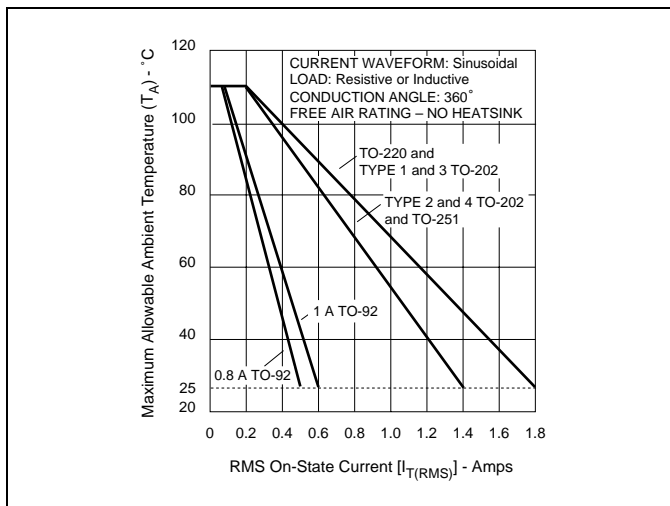
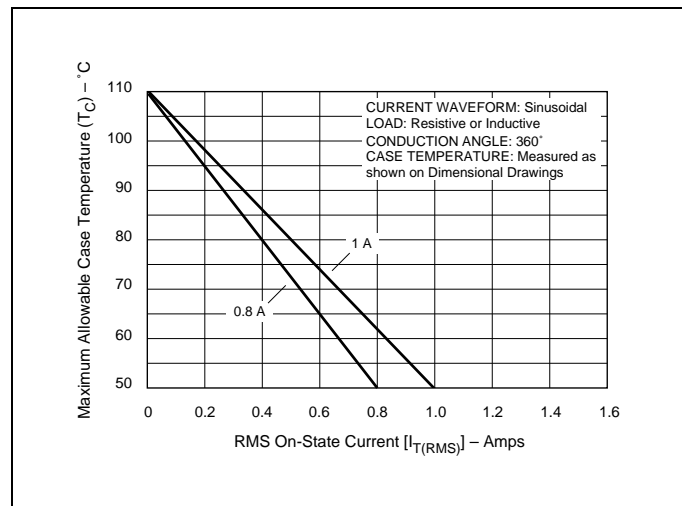
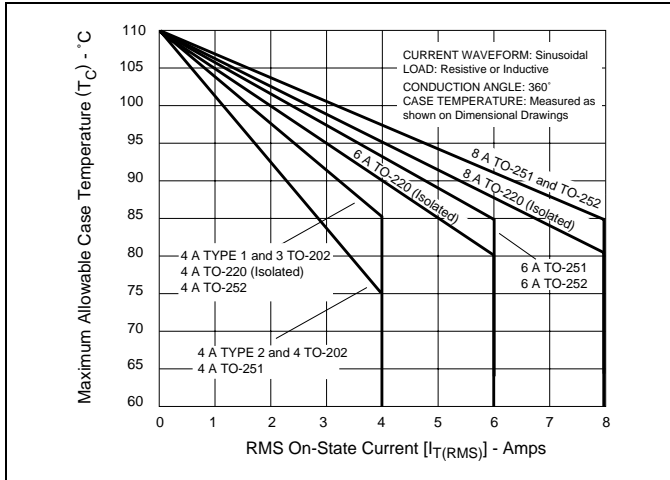

Figure E1.1 Maximum Allowable Ambient Temperature versus On-state Current
Figure E1.2 Maximum Allowable Case Temperature versus On-state Current (0.8 A and 1 A)
Figure E1.3 Maximum Allowable Case Temperature versus On-state Current (4 A, 6 A, and 8 A)
- (10) See Figure E1.2 and Figure E1.3 for maximum allowable case temperature at maximum rated current.
- (11) See Figure E1.1, Figure E1.2, and Figure E1.3 for T_A or T_C versus $I_{T(RMS)}$.
- (12) See package outlines for lead form configurations. When ordering special lead forming, add type number as suffix to part number.
- (13) Pulse width $\leq 10\text{ }\mu\text{s}$
- (14) T_C or $T_L = T_J$ for test conditions in off state
- (15) Minimum non-trigger V_{GT} at $110\text{ }^\circ\text{C}$ is 0.2 V.